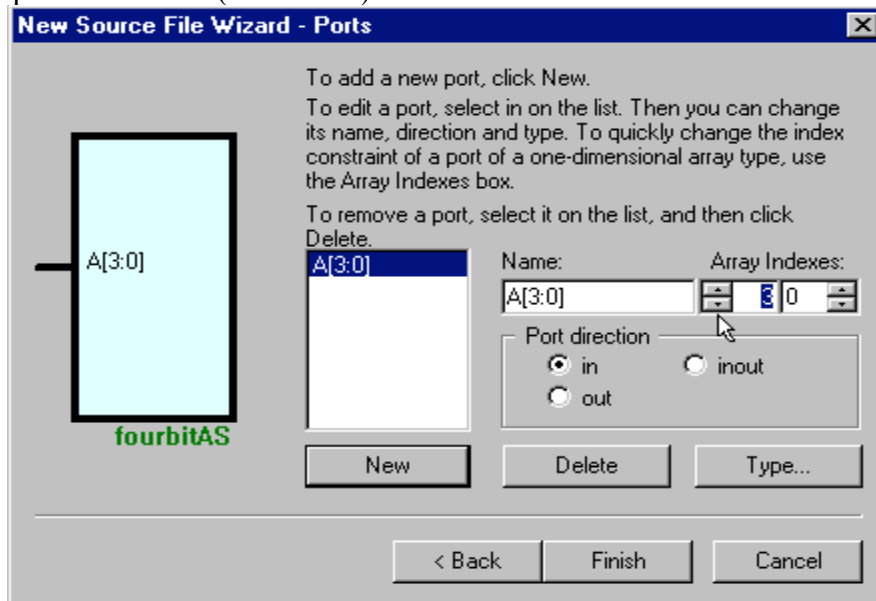

Figure 6
- To add a multi-bit terminal while in the wizard, type in the name of the terminal and select whether it is an input or output terminal. Now in the “Array Indexes” fields, place a 3 in the field on the left (the “to” field), and a 0 in the field on the right (the “from” field). You can enter in the numbers or use the arrow buttons to the right of each field. The fields will read “from 0 to 3”, or in other words, a 4-bit port (see Figure 6). To add multi-bit terminals in the schematic, click the drop down arrow next to the Terminals icon in the toolbar. Mouse over the options, select the desired terminal, and drop it into the schematic. Double-click the terminal in the design, and adjust the “Index Range” fields in the Terminal Properties window (not shown) to the desired number of bits.